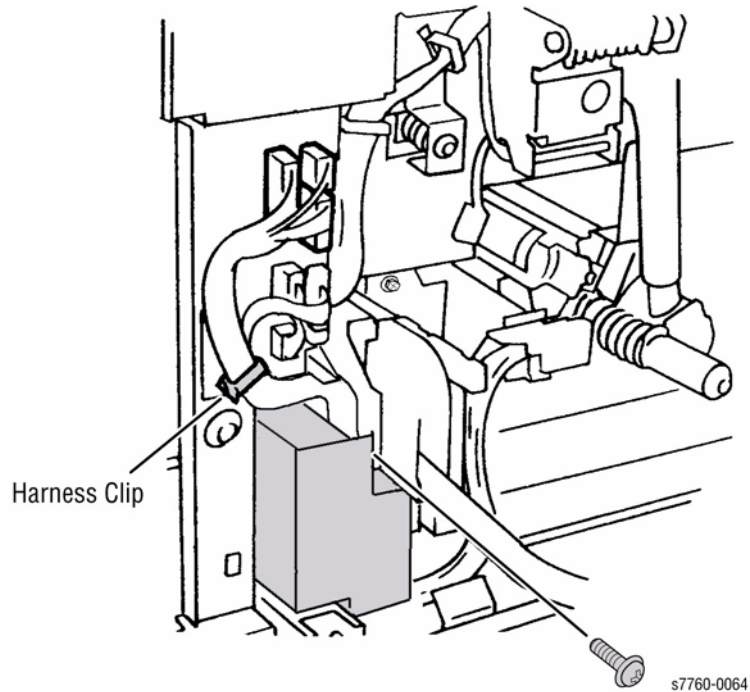

Figure 2 Disconnecting Developer Housing Wiring Harnesses
12. Disconnect Developer Housing Wiring Harnesses (Figure 2).